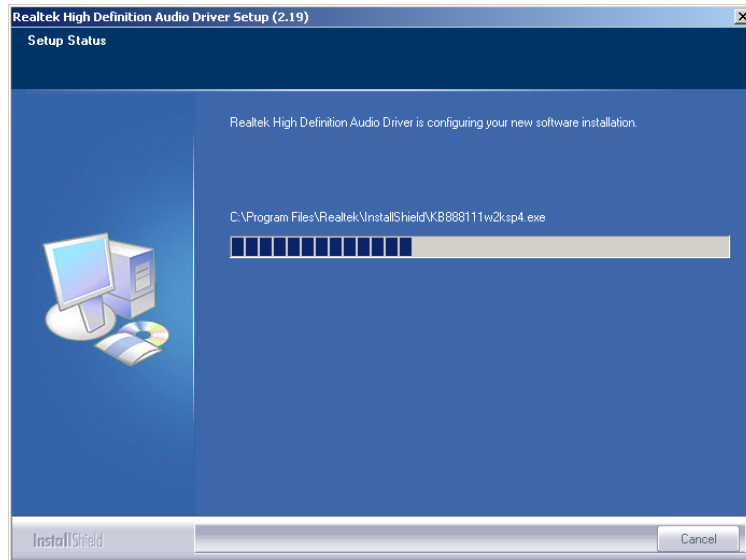

Figure 6-22: Audio Driver Software Configuration
Step 7: InstallShield starts to install the new software as shown in **Figure 6-22**.